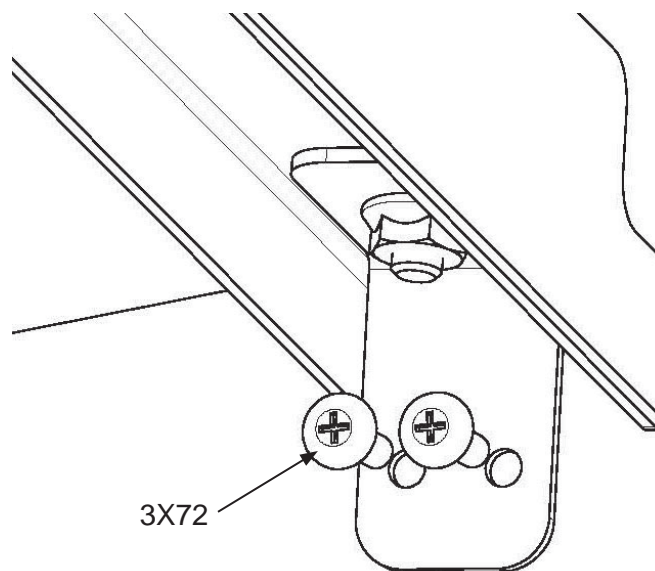

Fig. 6
C. With cover panels secure, drive #8-32 screws (3X72) into rear quarter trim as shown. See figure 6.